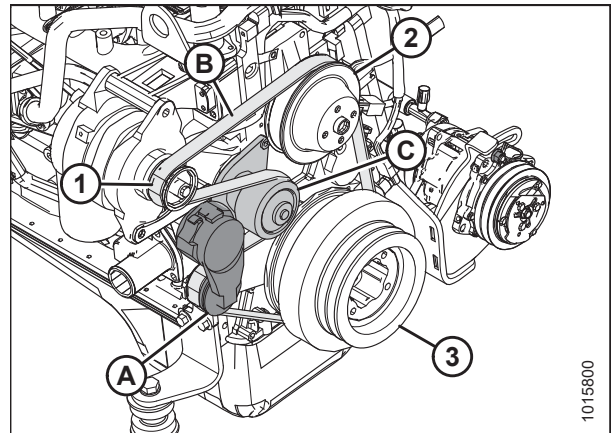

Figure 5.170: Engine Belt
5. Insert the drive end of a 1/2 in. drive ratchet wrench into belt tensioner (A).
6. Rotate tensioner counterclockwise until fan belt (B) can be slipped off pulley (C). Release tensioner and remove wrench.
7. Remove belt in order 1, 2, 3, as shown in Figure 5.170, page 403.
8. Insert the drive end of a 1/2 in. drive ratchet wrench into belt tensioner (A).
9. Rotate tensioner counterclockwise until belt (B) can be slipped onto pulley (C). Release tensioner and remove wrench.